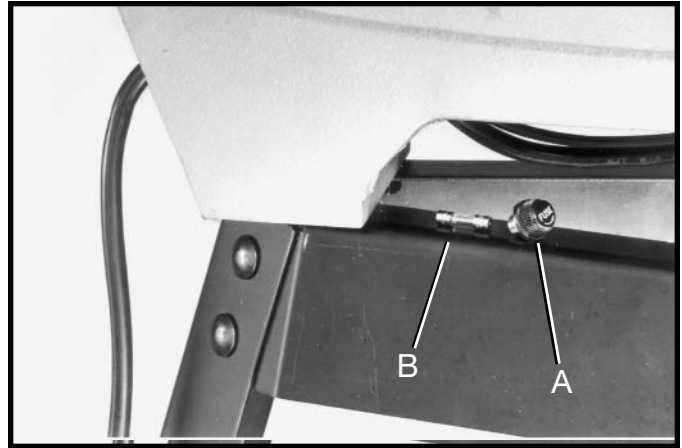

Fig. 36
A fuse holder (A) Fig. 36, and fuse (B) are located up under the rear of the machine and should be removed and checked if the machine does not operate. If the fuse (B) is bad, replace it with a 4 amp fuse.